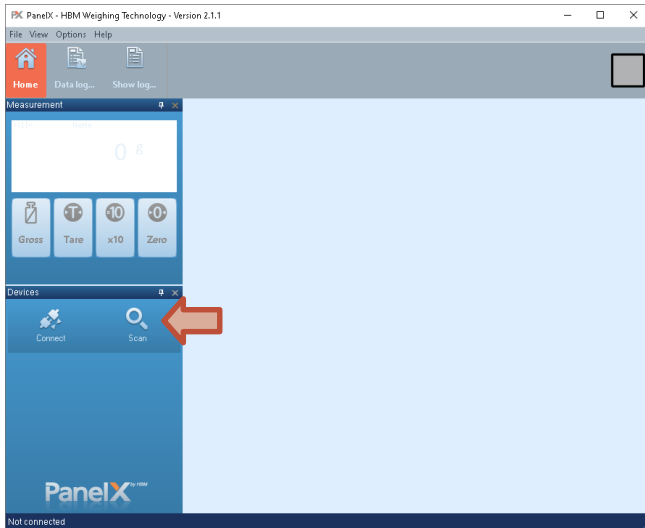

Fig. 7.1 Accessing the Scan dialog
- ▶ Click on **Scan** (Fig. 7.1 on page 17).